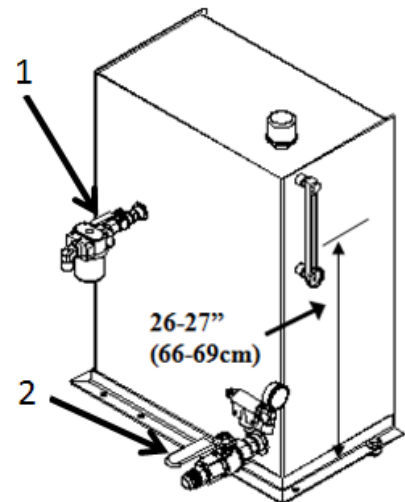

Figure 4-5: Hydraulic Oil Level
**4.2.2 Hydraulic Tank Oil Level and Valve Position:** Refer to section 11.0, Lubrication and Maintenance, for the service schedule, oil type, and filter replacement info. “Full Cold Line” on the decal should be at the dimension shown in Figure 4-5.
**CAUTION:** Valves (1 & 2) must be open prior to engaging the PTO or system failure will occur. Valves in Figure 4-5 are shown in the open position.